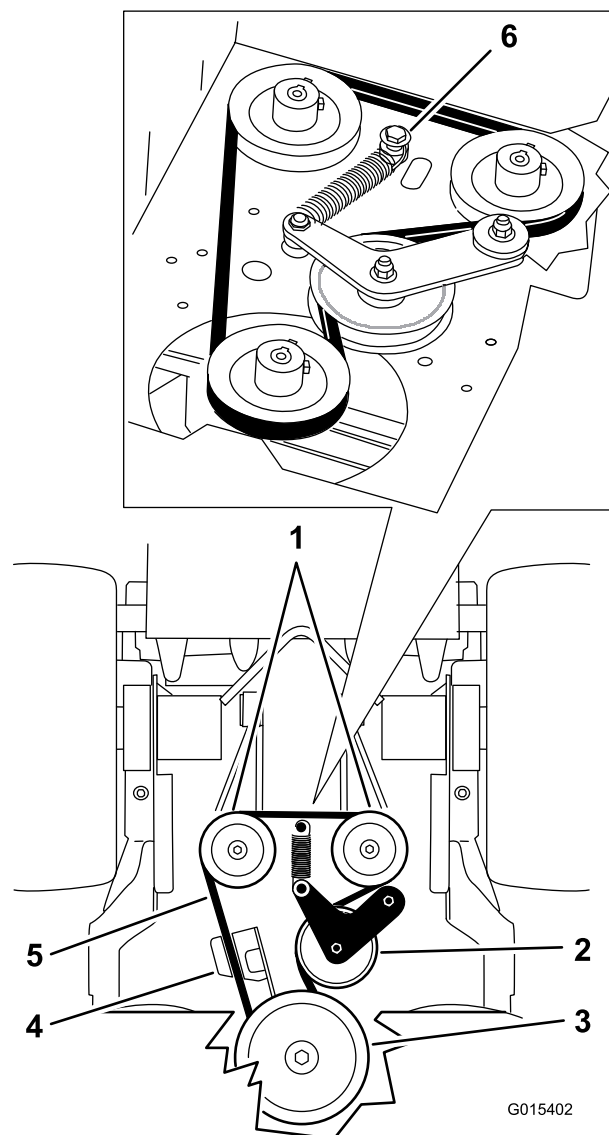

Figure 76
5. Remove the shoulder bolt, the nut, and the washer from the engine deck and connected spring (Figure 76).
6. Remove the pump-drive belt (Figure 76).
8. Install the spring onto the shoulder bolt and washer, and connect it to the engine deck with the nut (Figure 76).